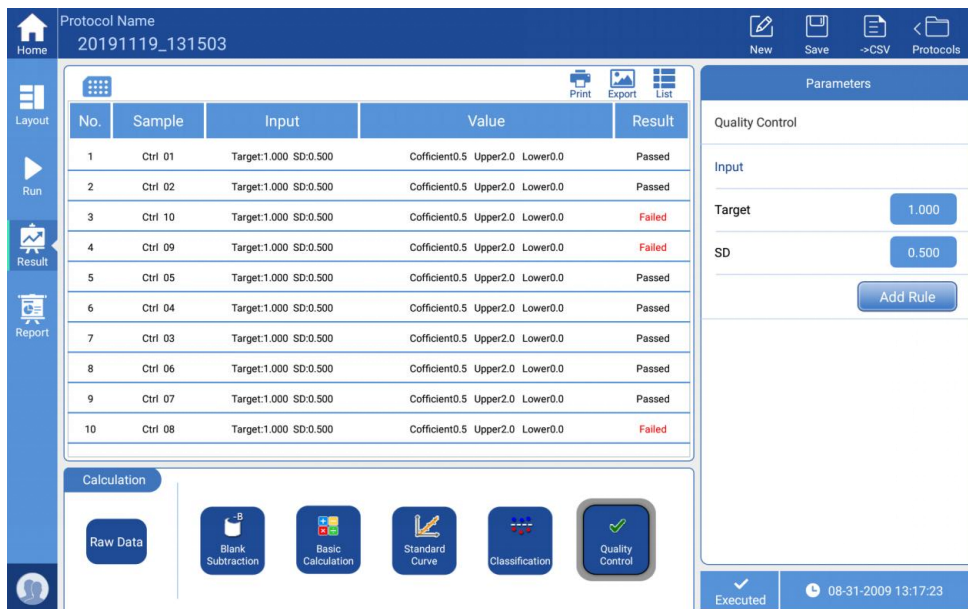

Fig 16
- Quality Control: Click “Quality Control” button, the interface will turn to Fig 16, the main display area will turn out to be a list, it displays status of the quality control well which set previously, instrument will mark according to conditions set in “Parameters”.